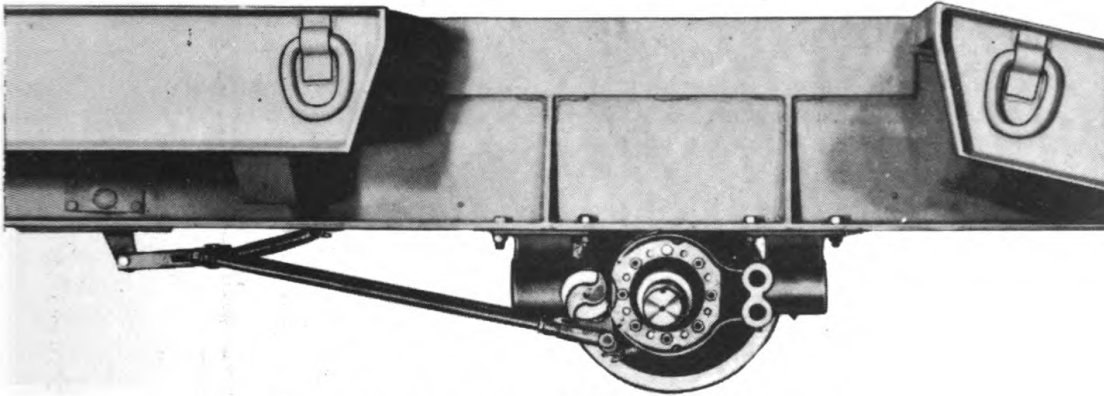

Figure 26—Rear Axle with Brake Shoe Removed.
e. Remove the brake shoes from the spider. (See figure 26.)